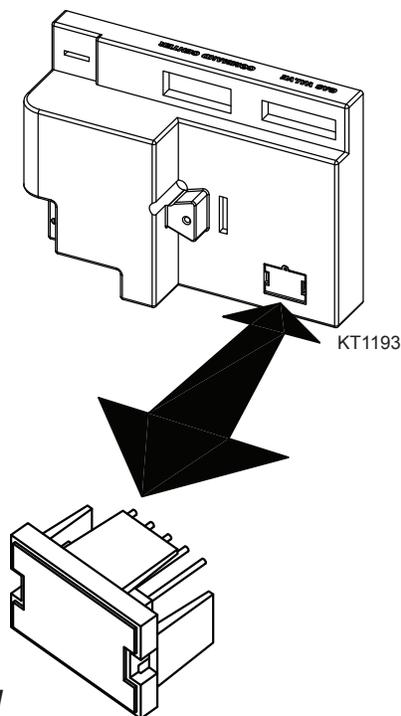

Figure 74 - Convert Control Board
10. Replace conversion cap with new cap supplied in kit. Gently remove with small flat screwdriver. *Figure 74*